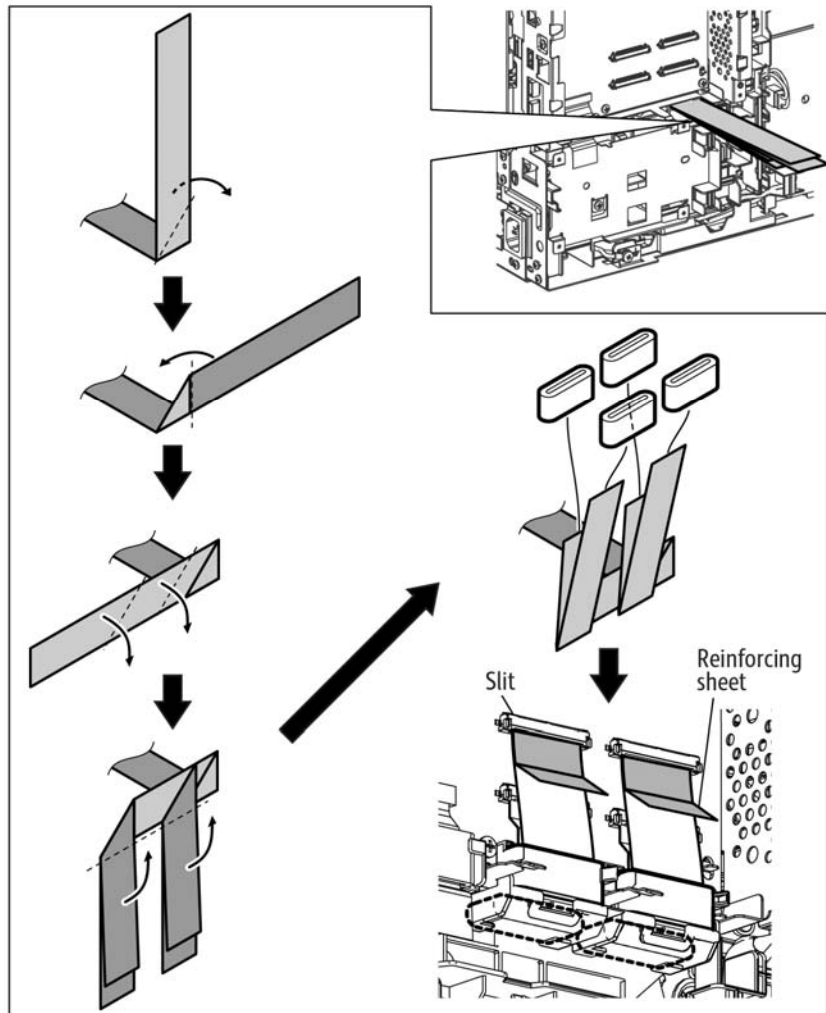

Figure 7 Fold and connect the FFCs
2. Before inserting the FFC into the connector, bend the reinforcing tab to 90 degrees, then hold the tab to insert the FFC into the slit until hearing a click, Figure 7.